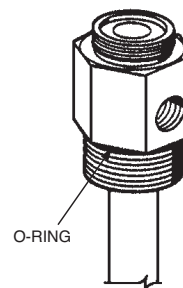

FIGURE 1
- b. Clean and coat O-ring with a good grade of extreme temperature grease and reinstall into adaptor groove. See Figure 1.